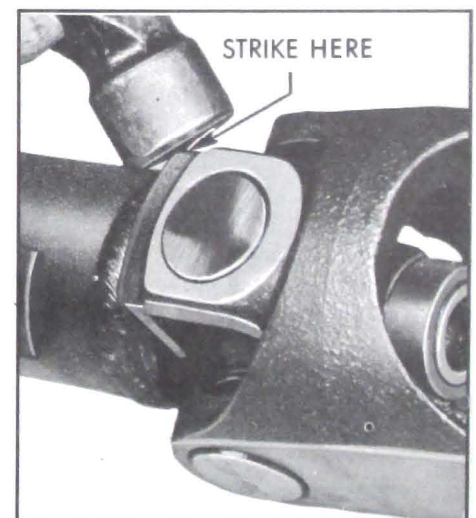

Figure 6-72—Seating Snap Rings
5. Strike the yoke with a hammer to fully seat the snap rings against the yoke. Turn the spider to make certain that it is free. See Figure 6-72.